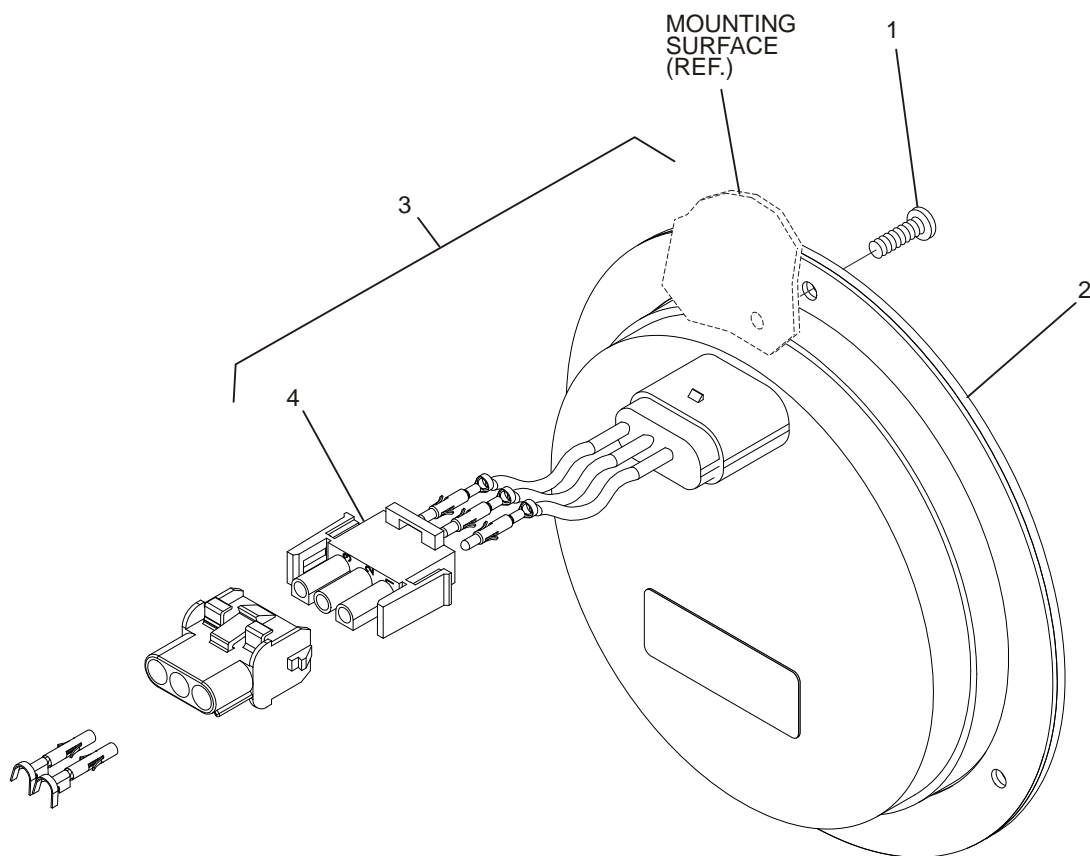

Figure 7-9: Replace Silent Alarm Indicator
2. Remove three screws (1, Figure 7-9) from the bezel (2).
3. Partially remove the Silent Alarm assembly (3) from its mounting surface.
4. Disconnect the three-circuit nylon connector (4) to remove the complete assembly (3).
5. Attach the three-circuit nylon connector (4) to the replacement assembly (3).
6. Mount the assembly and install three screws (1).